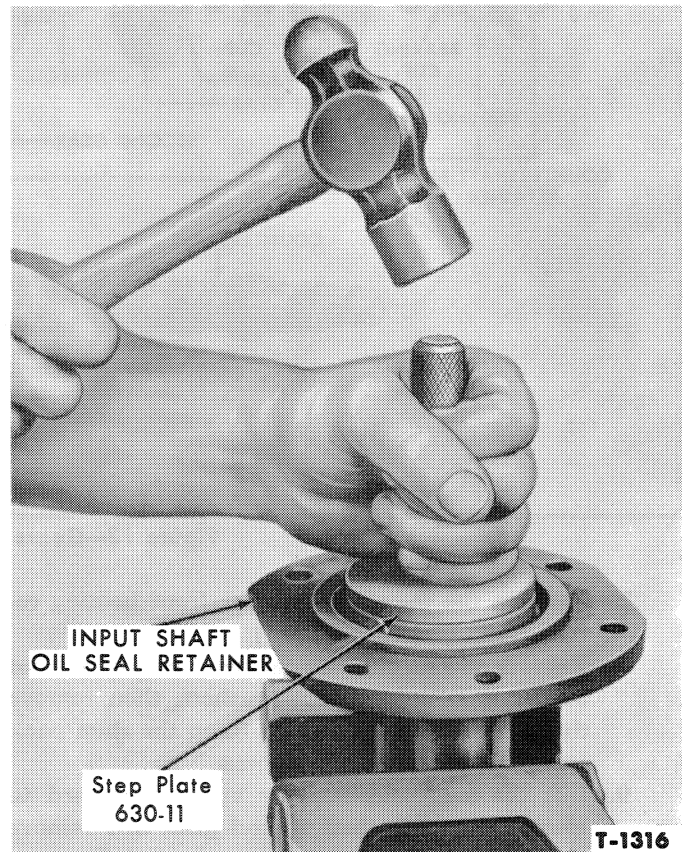

Figure 15—Installing Oil Seal in Input Shaft Oil Seal Retainer
2. Coat the wiping surface of a new seal with Lubriplate or equivalent and install it in the input shaft seal retainer with Step Plate 630-11 as shown in Figure 15. Make certain that the lip of the seal faces toward the rear of the retainer.